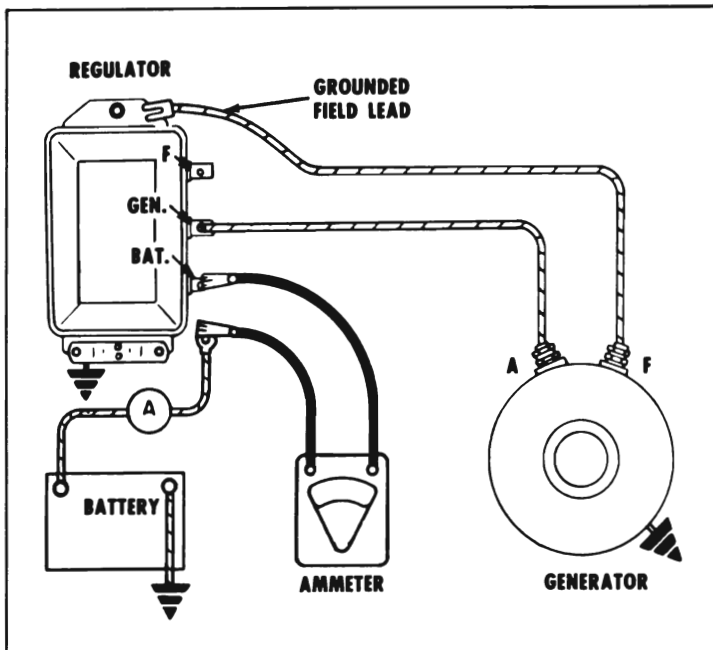

Figure 10-15—Testing Regulator for Oxidized Points
3. Disconnect field lead from regulator "F" terminal and ground it on regulator base. See figure 10-15. If ammeter reading increases